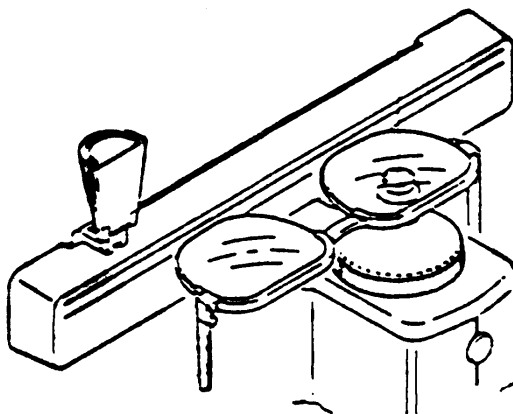

Figure 3-2. Setting the lens
3. Place the eyeglass frame on the nose slider with the top of the glasses frame facing you and the bottom of the glasses frame against the platform. This will position the glasses so that the right lens is held in your right hand and the left lens is held in your left hand (similar to holding glasses upside down). See Figure 3-2. Because the lensmeter will automatically detect the position of the slider, you do not need to "tell" the lensmeter which lens you are reading; it should indicate that you are testing the right lens.